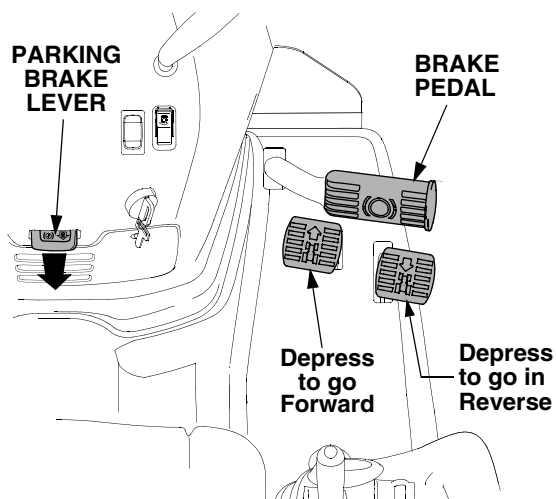

Figure 15
- Fully depress the brake pedal to bring the tractor to a complete stop. Push downward on the parking brake lever and release the pedal to engage the parking brake. See Figure 15.
- To move forward, slowly depress the forward control pedal (See Figure 15) until the desired speed is achieved. The speed of the tractor is directly related to the distance the pedal is depressed.
- To move in reverse, check that the area behind is clear then slowly depress the reverse control pedal. Refer to Figure 15.